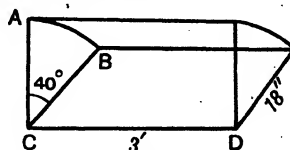

FIG. 31. HOPPER WINDOW
5. A hopper window, 3 ft. by  $1\frac{1}{8}$  in., swings inward about its lower edge, CD. If the angle is  $40^\circ$ , find the length of the arc AB and the area of glass in the side cheek ABC, Fig. 31. (The side openings are protected by glass screens.)